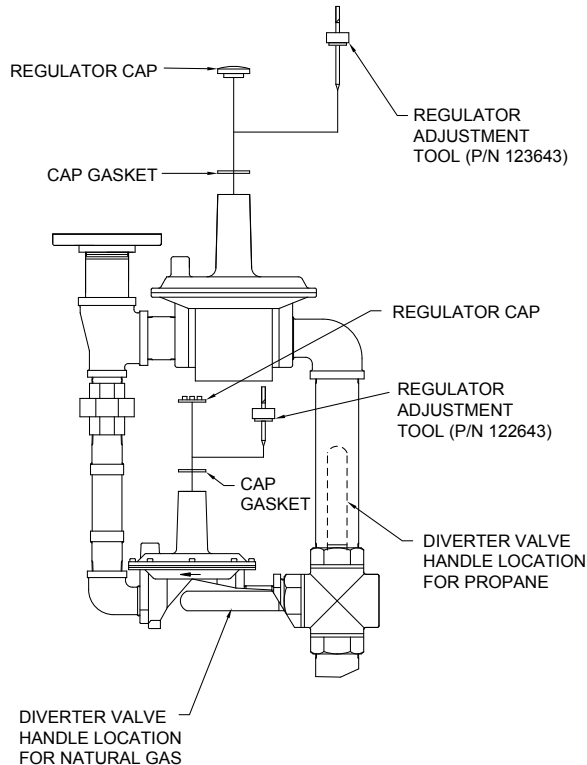

Figure 4.4
1. Remove the cap from each differential pressure regulator (see Figure 4.4).
2. Rotate the 3-way gas diverter valve handle to the Propane (Up) position (see Figure 4.4 and Appendix K).